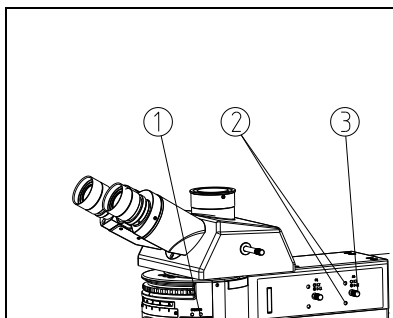

Fig.40
(1) Rotate the turntable, to turn the fluorescence filter B or G into the light path. (If there is no fluorescence filter B or G, use another fluorescence filter.) (See Fig. 40)
(2) Rotate the objective nosepiece, to turn the 10X objective into the light path.
(3) Put the fluorescence flashboard block ① to position "O", to open the light path.
(4) Focus the slide on the stage, and adjust it to be clear.
(5) Pull the aperture diaphragm pole② to the outmost, to open the aperture diaphragm to the smallest.
(6) Take off one eyepiece, replace it with the CT (Centering Telescope), and insert it into the observation tube. Adjust the CT to find the image of aperture diaphragm in the view field.
(7) Adjust the two aperture diaphragm centering screws ③ on the side of illuminator by a inner hexagon spanner, to move the image to the center of view field. (See Fig. 40)
(8) Open the aperture diaphragm gradually, if the image is inscribed with the view field, then it means the aperture diaphragm is rightly centered.
(9) In actual fluorescence observation, push the aperture diaphragm pole ②, to open the aperture diaphragm to the largest.